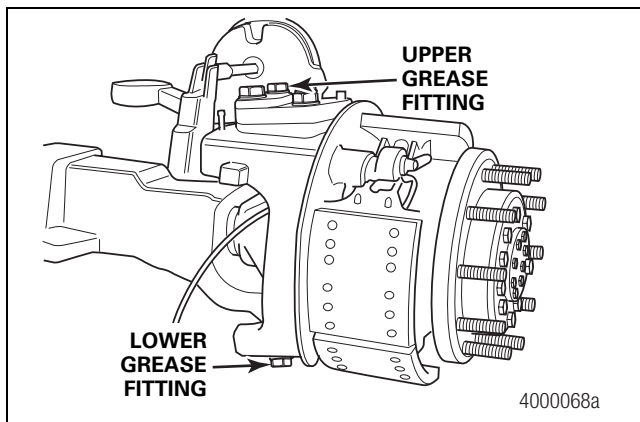

Figure 5.24
3. Lube the knuckle sockets through the grease fittings on the top and bottom knuckle caps. Figure 5.24.